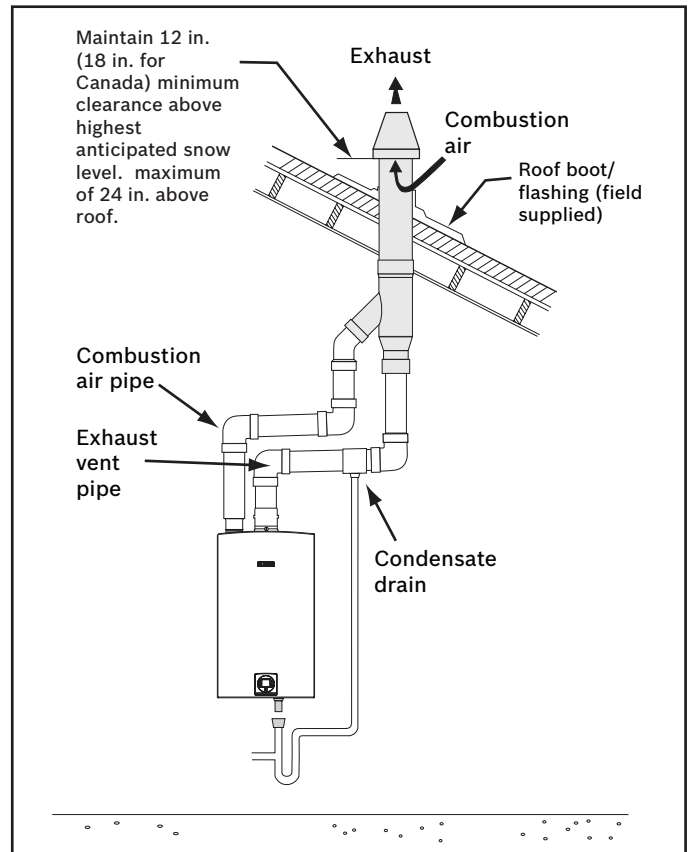

Fig. 7 Concentric vent installed - vertical penetration
See Fig. 6 and Fig. 7 for examples of a condensate drain installation.
11. Complete tankless water heater installation per the water heater's installation manual (Fig. 6 and Fig.7).